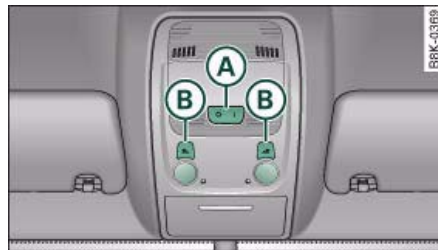

Fig. 62 Headliner: Front interior lighting/reading lights
The rocker switch (A) ⇒ fig. 62 for the interior light has the following functions:
- Press one of the switches (B) ⇒ fig. 62 to switch the left or right reading light on and off.